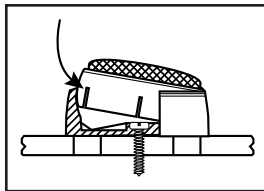

Figure 5
*NOTE: to remove the tweeter assembly, place a small screwdriver into the side slot and pry carefully upwards (Figure 5)*